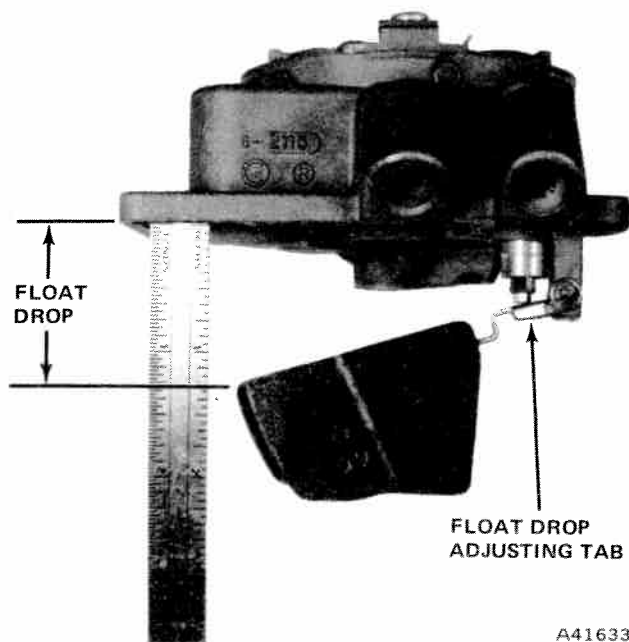

Fig. 4-24 Float Drop Adjustment
(1) Remove carburetor air horn and gasket from carburetor.
(2) Hold air horn upright and let float hang free. Measure the maximum clearance from top of float to bottom of air horn with float drop gauge. (Refer to Carburetor Service Specifications for proper clearance.) Hold air horn at eye level when gauging dimension (fig. 4-24).